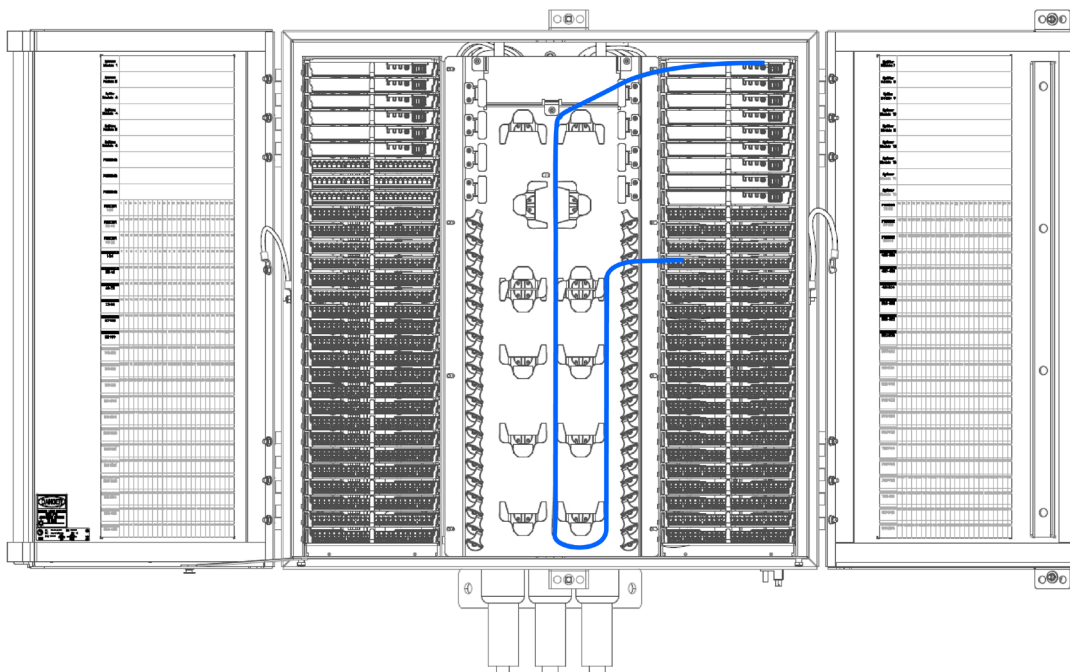

Figure 22. Connect Feeder Input Pigtail
12.1.1 Splitter modules snap into plastic trays which in turn mount into empty slot positions within the cabinet. Refer to Figure 22 to determine which slot position to pull from. To remove the plastic tray, push the tabs on the right and left side of the slot with your finger and move the tray towards you. The tray will come out completely.
- 12.5.5 Route pigtail slack into center storage area as shown in Figure 22.